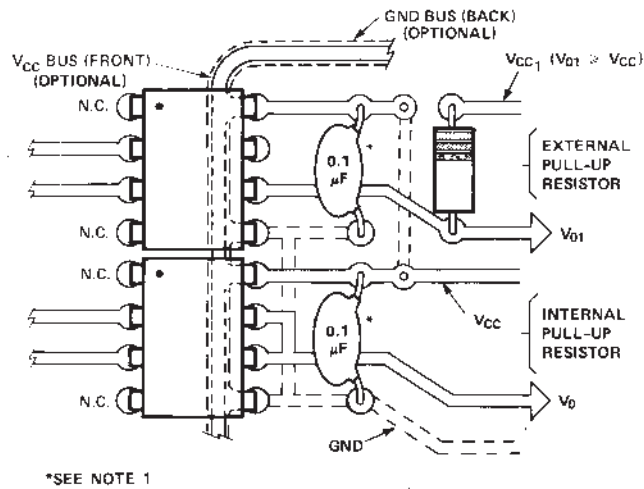

Figure 19. Recommended printed circuit board layout.
- By-passing the power supply line is required with a 0.1  $\mu\text{F}$  ceramic disc capacitor adjacent to each optocoupler as illustrated in Figure 19. The power supply bus for the optocoupler(s) should be separate from the bus for any active loads, otherwise a larger value of bypass capacitor (up to 0.5  $\mu\text{F}$ ) may be needed to suppress regenerative feedback via the power supply.
A recommended layout for use with an internal 1000  $\Omega$  resistor or an external pull-up resistor and required  $V_{CC}$  bypass capacitor is given in Figure 19.  $V_{CC1}$  is used with an external pull-up resistor for output voltage levels ( $V_O$ ) greater than or equal to 5 V. As illustrated in Figure 19, an optional  $V_{CC}$  and GND trace can be located between the input and the output leads of the HCPL-2300/HCPL-0300 to provide additional noise immunity at the compromise of insulation capability ( $V_{I,O}$ ).